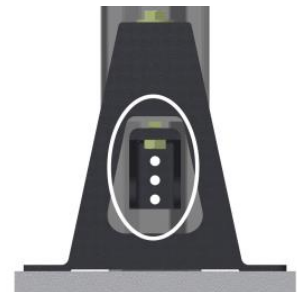

Figure 2: Mark holes of the C-Channel on the legs
4. Mark the holes of the C-channel on the leg and drill using $\frac{1}{2}$ " drill bit. **(Figure 2)**